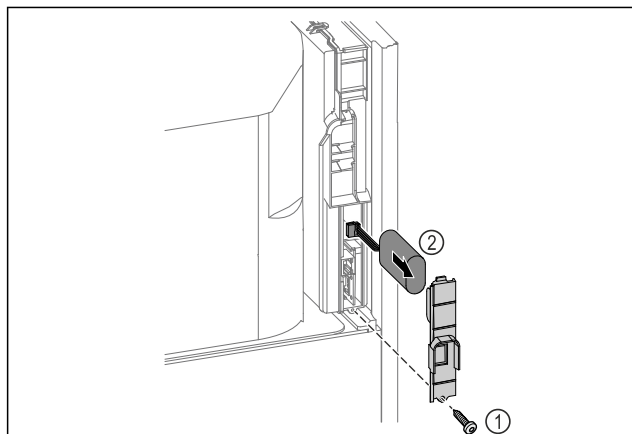

Fig. 219
- ▶ Unscrew screw and remove cover from the back of the appliance Fig. 219 (1).
- ▶ Disconnect and remove battery Fig. 219 (2).